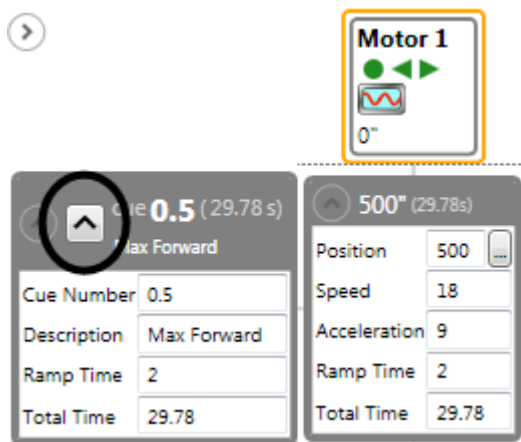

Figure 46
1. To load **Cue 1**, press the **Load Cue** button on the cue in the **Cue Grid** (Figure 46).